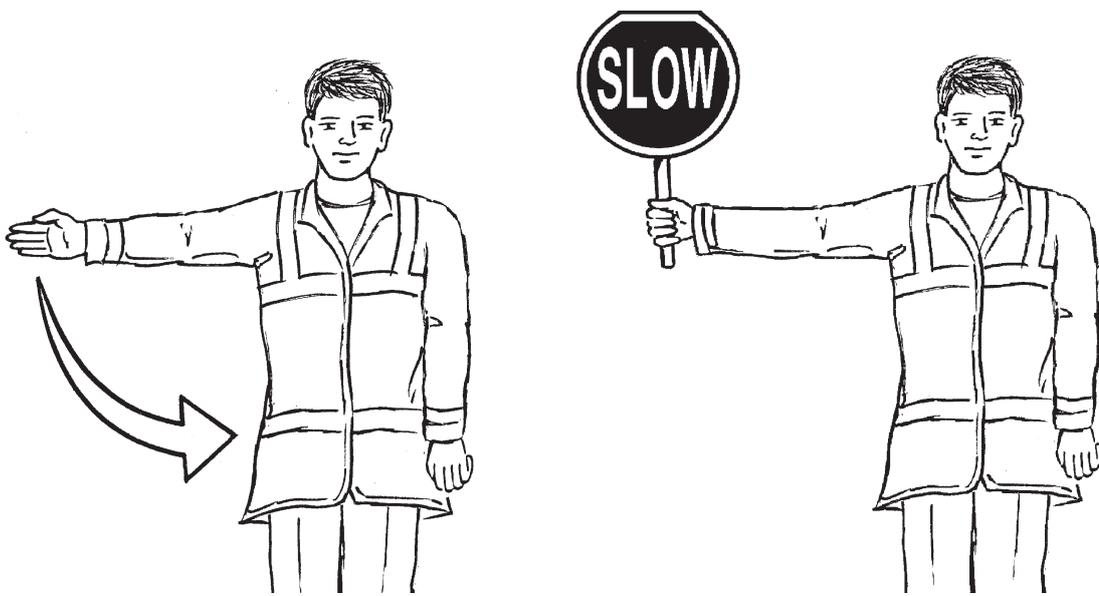

Figure 11. Signaling traffic from the road
Slowing traffic when directing from the road (figure 11)
- If you're driving and leading an oversize load and want to signal approaching road users to slow down, use the right-arm arc motion described in figure 11 or use the Slow paddle.